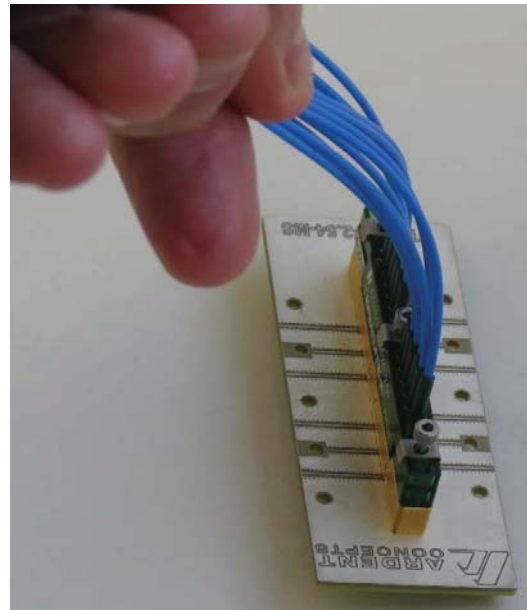

Figure 6: Holding the TR Assembly in Place
- Carefully align the two dowel pins with their corresponding holes being sure to align the 1.5mm dowel pin with the 1.5mm hole and the 1mm dowel slot pin with the 1mm slot hole (See Figure 6).
- Carefully push down on the block and hold it in place (See Figure 6).